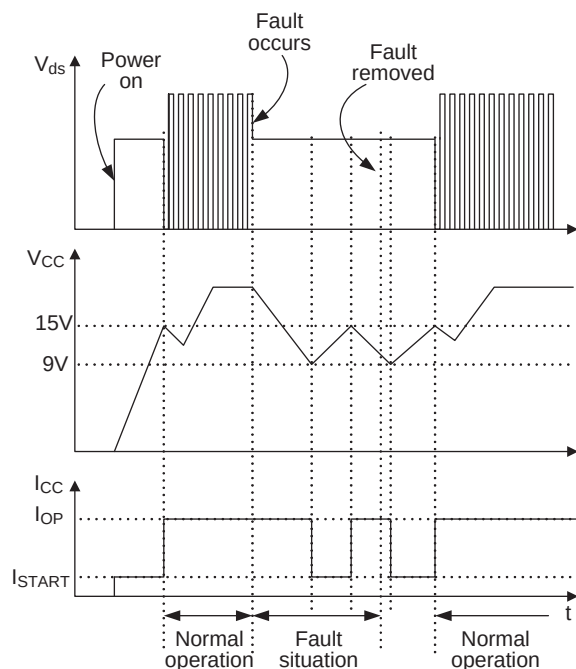

Figure 12. Auto Restart Mode Protection
– Auto-restart mode protection: Once the fault condition is detected, switching is terminated and the SenseFET remains off. This causes V_{CC} to fall. When V_{CC} falls to the under voltage lockout (UVLO) stop voltage of 9V, the protection is reset and the FSCQ-Series consumes only startup current (25μA). Then, the V_{CC} capacitor is charged up, since the current supplied through the startup resistor is larger than the current that the FPS consumes. When V_{CC} reaches the start voltage of 15V, the FSCQ-Series resumes its normal operation. If the fault condition is not removed, the SenseFET remains off and V_{CC} drops to stop voltage again. In this manner, the auto-restart can alternately enable and disable the switching of the power SenseFET until the fault condition is eliminated (see Figure 12).